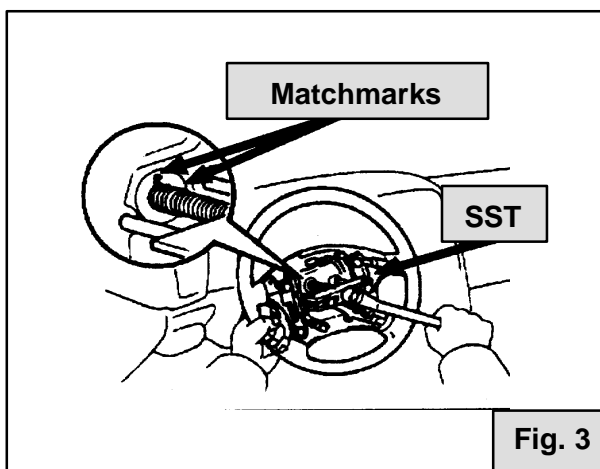

Fig. 3
- c. Place matchmarks on the wheel and steering main shaft. (See Fig. 3)